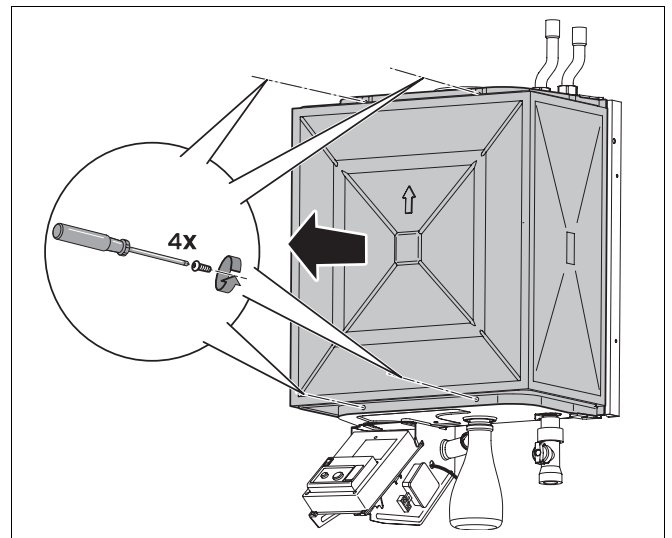

Fig. 24 Unscrew ventilation cover
- Loosen the 4 crosshead screws on the ventilation cover (fig. 24).